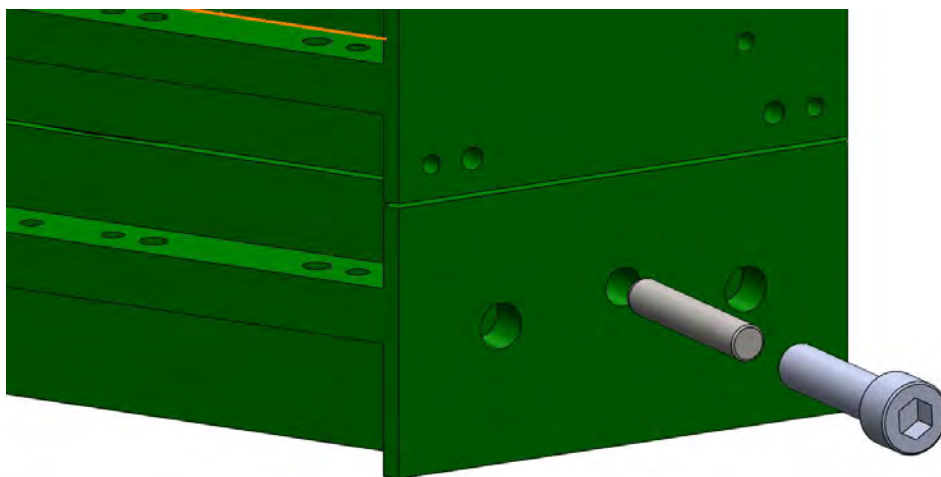

Figure 7.4-1. Manual Uncouple Feature
4. Insert a 8mm OD x 60mm long shaft followed by a M10x40mm long socket head cap screw in the hole located in the middle of the short sides (Positions 1, 3, or 5) of the Tool Adaptor Housing as shown in Figure 7.4-1. This requires any tool side modules on Positions 1, 3, or 5 to be removed.